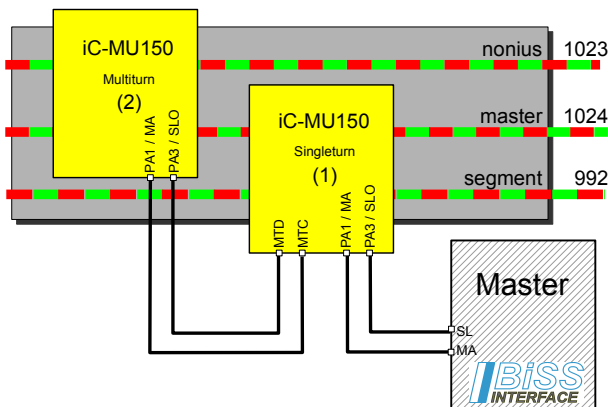

Figure 43: 3-track nonius with 2 iC-MU150
The construction of such a system is shown as an example in Figure 43 and the configuration in Table 71.
Table 71: Configuration example for the 3-track nonius system of Fig.43
To facilitate the initial configuration of an iC-MU150 as a SSI multiturn device the command SWITCH can be used (see page 58). The singleturn iC-MU150 (1) in Figure 43 has to enable the direct communication to the multiturn sensor by setting GET\_MT to 1. The configuration of iC-MU150 (2) can take place using the BiSS protocol. After the configuration of the external multiturn MODEA\_NEW and RPL\_NEW are used to set the target configuration of MODEA and RPL. After